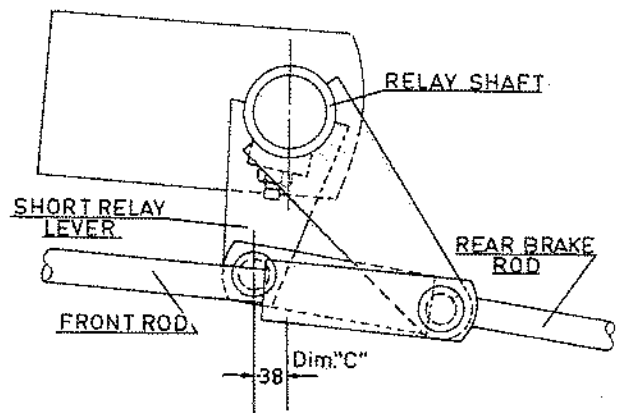
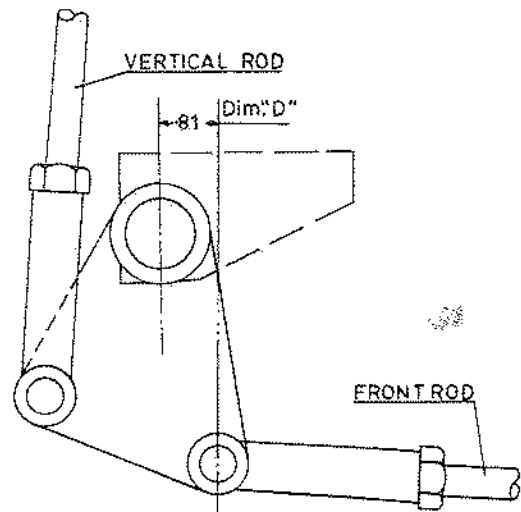

FIG.2 HANDBRAKE RELAY
FIG.3 BELLCRANK
5. The next step is illustrated in Fig. 2. Disconnect both adjustable yokes from the relay lever. Adjust the rear yoke until dimension "C" is obtained.
6. Now adjust the front yoke Fig. 2 to obtain dimension "D", Fig. 3.